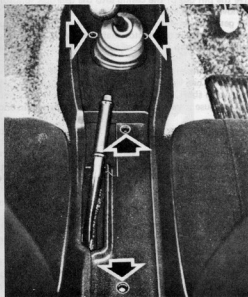

Fig. 6.3. Location of centre console securing screws (Sec. 2)
- 4 Gearshift lever removal:** It will be necessary to first remove the centre console moulding. This is retained by four screws concealed beneath plastic caps (Fig. 6.3). After removing the caps and screws, lift the console forward over the handbrake lever and withdraw it from the car.